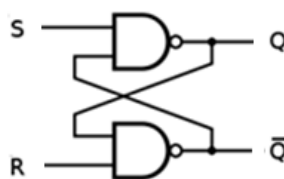

Figure 8.5: S'R' latch
1. Build the circuit of NAND latch given in Figure 8.5 using structural or dataflow modeling.